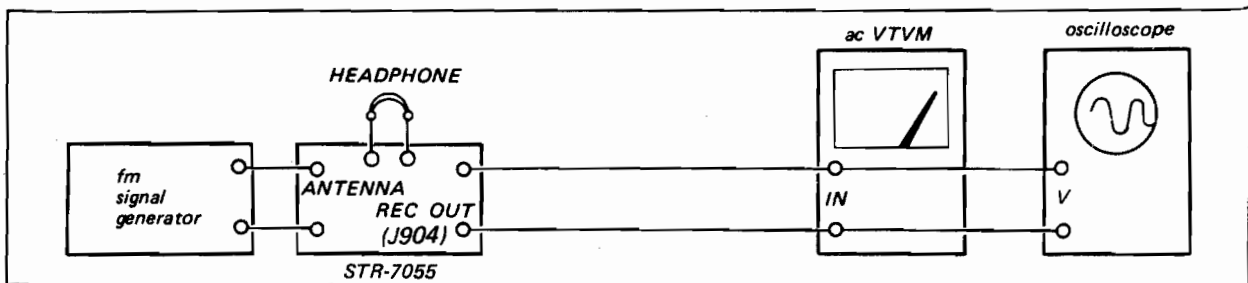

Fig. 3-4. Fm i-f, discriminator, muting and front-end alignment test setup
2. Connect the test equipment and a headphone as shown in Fig. 3-4.
1. With the test equipment connected as shown in Fig. 3-4, set the signal-generator controls as follows:
1. With the test equipment connected as shown in Fig. 3-4, set the receiver controls as follows:
2. Connect the test equipment as shown in Fig. 3-4.
3. With the test equipment connected as shown in Fig. 3-4, set the signal generator controls as follows: